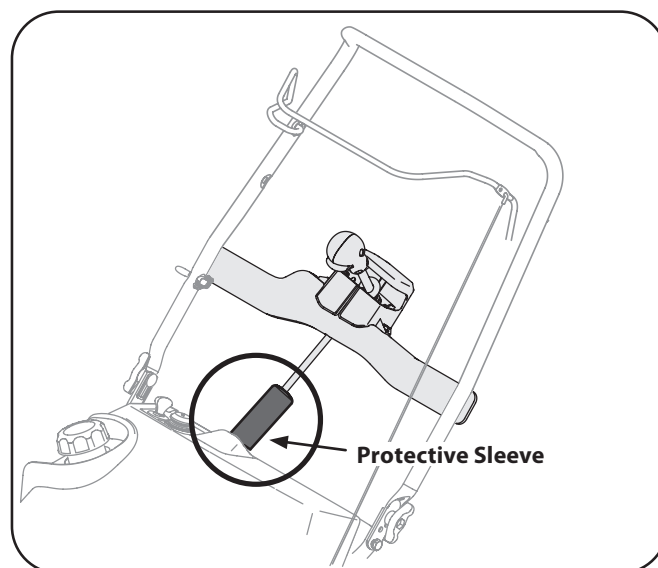

Figure 3-9
6. Slide the protective sleeve over the universal joint. See Fig. 3-9.